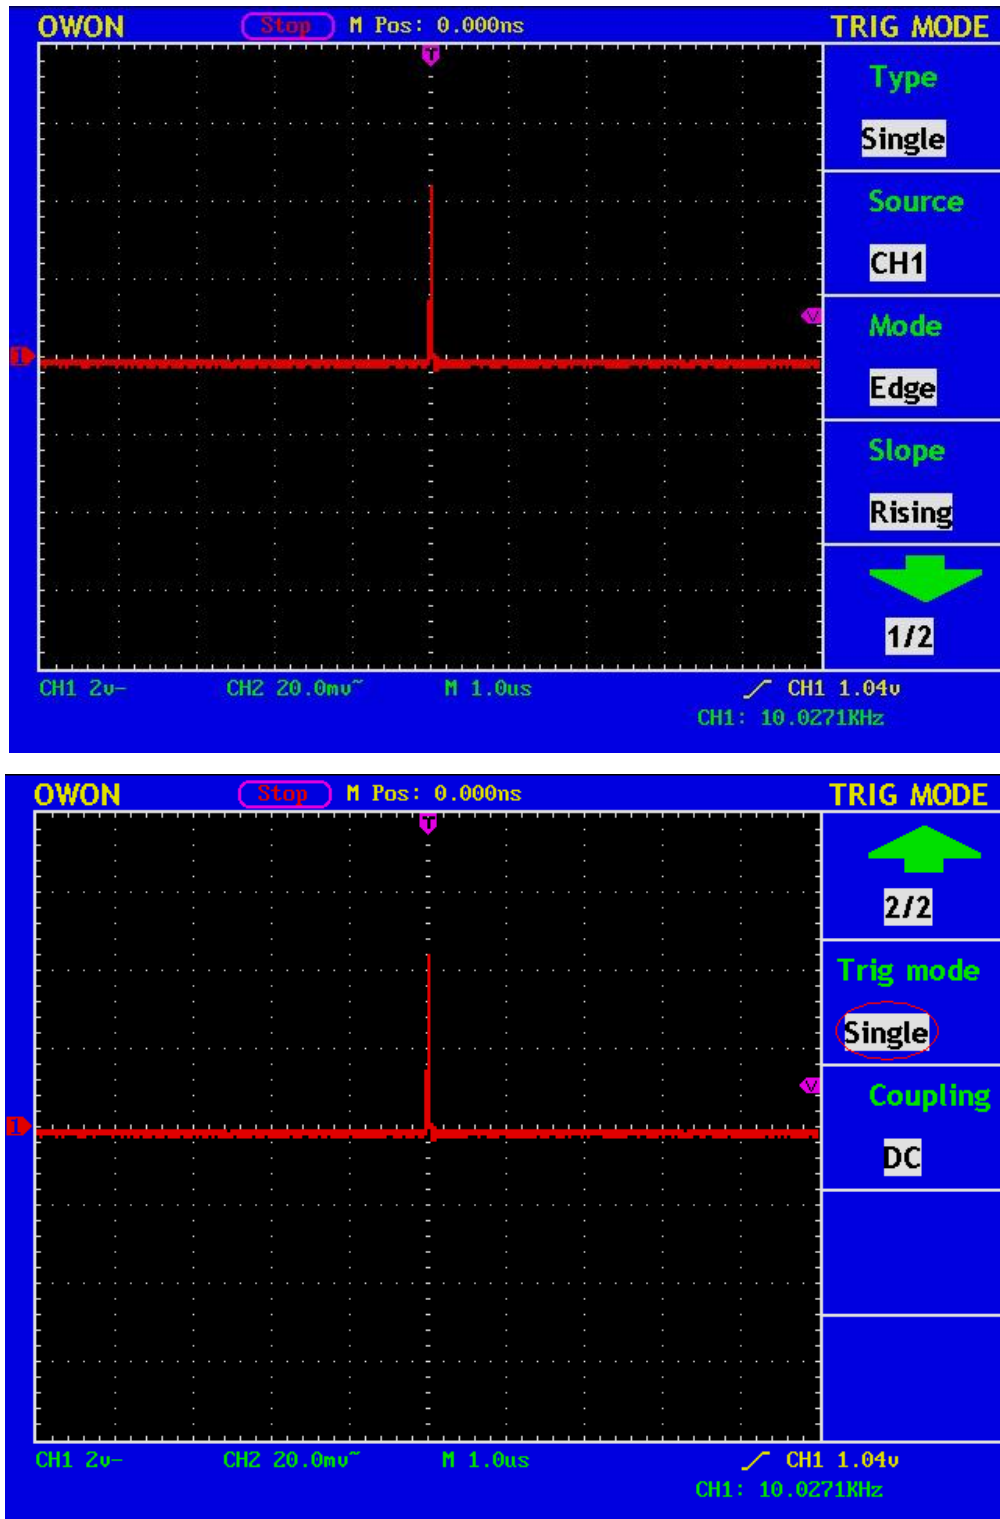

Fig. 92 Capture the Single Signal
12. If the **Trigger State Indicator** at the top of the screen does not indicate **Ready**, push down the **RUN/STOP** button and start **Acquire**, waiting the emergence of the signal in conformity with the trigger conditions. If a signal reaches to the set trigger level, one sampling will be made and then displayed in the screen. With this function, any random occurrence can be captured easily. Taking the burst burr of larger amplitude for example, set the trigger level to the value just greater than the normal signal level, and then presses the **RUN/STOP** button and waits. When there is a burr occurring, the instrument will trigger automatically and record the wave form generated during the period around the trigger time. With the **HORIZONTAL POSITION** knob in the horizontal control area in the panel rotated, you can change the horizontal position of the trigger position to obtain the negative delay, making an easy observation of the waveform before the burr occurs (see Fig. 92).